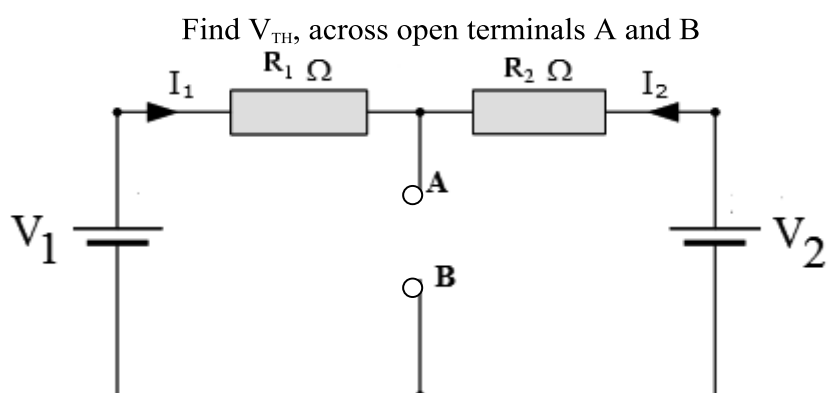

Figure 2
5. Switch ON both voltage sources  $V_1$  and  $V_2$  and note down the voltage across the open terminals A and B (i.e.  $V_{TH}$ ). As shown in figure 2.